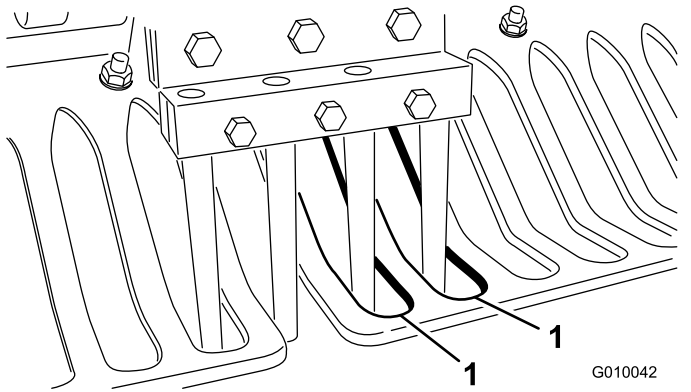

**Figure 25**
6. Install tines into the #2 and #5 tine holders (Figure 25). Tighten the bolts.